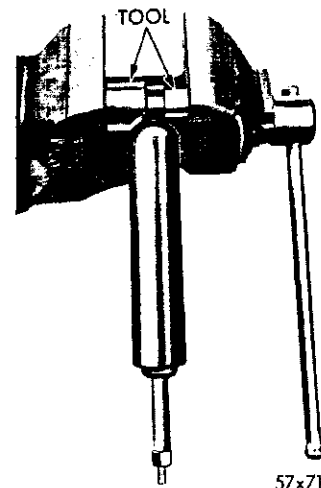

Fig. 12—Removing or Installing the Shock Absorber Lower Bushing
(2) Compress the shock absorber by pushing the rod through the shock absorber support.
(3) Remove the lower mounting bolt and remove the shock absorber.
(4) Using a suitable drift, force the steel sleeve out of the upper bushing.
(5) Remove the bushing through the frame opening and inspect for wear, damage or deterioration. If bushing is to be replaced, remove the lower mounting bushing from the shock absorber, using Tool C-3553 (Fig. 12).